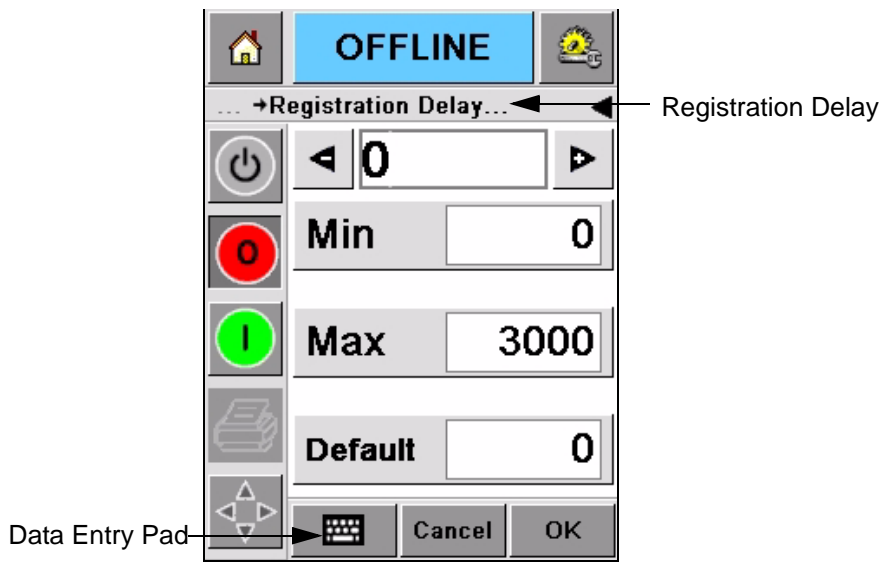

Figure 5-15: Registration Delay
- 2 Touch the *Registration Delay* icon. Enter the new print position (in millimeters) with the keypad (Figure 5-15 on page 5-12).